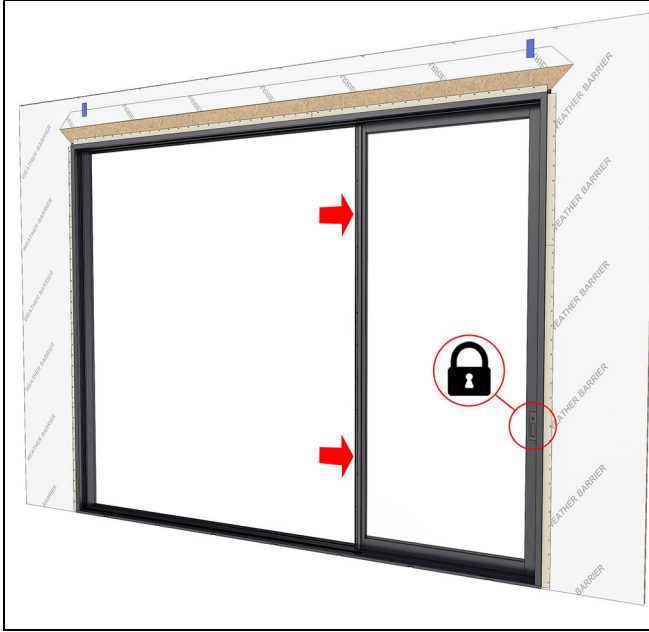

Figure 115
5. Close and lock the operator panel. See Figure 115.